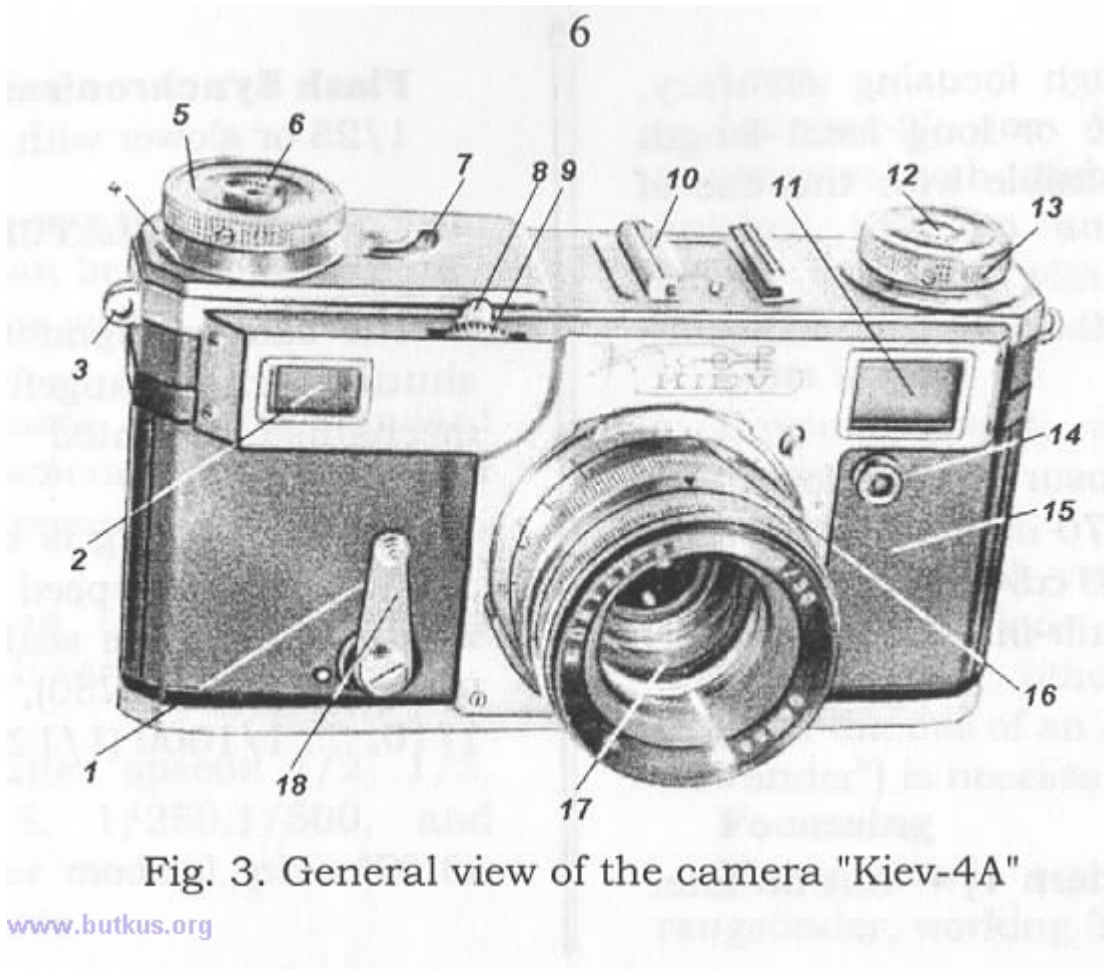
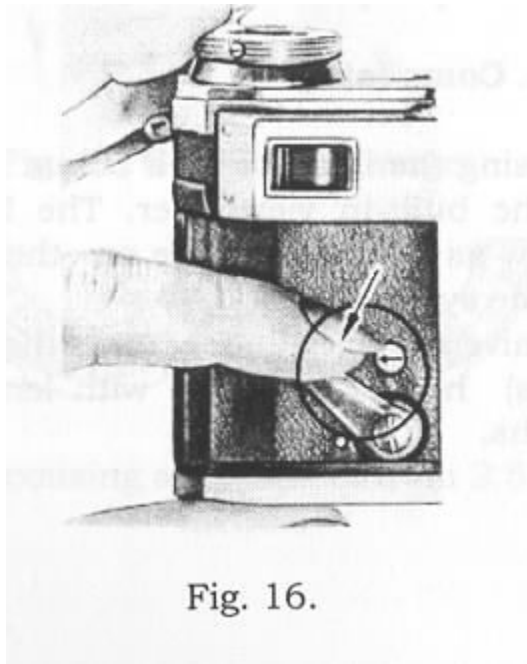

Fig. 3. General view of the camera "Kiev-4A"
Fig. 16.
The basic components of the camera (fig. 3) are: shutter, lens, rangefinder, viewfinder, self-timer mechanism mounted on the body, and removable back cover.
The self-timer mechanism is located inside the camera body. It is started by the lever 13. Also shown in fig 3 are: 3- camera strap eyelet; 14 -flash PC cord outlet.
Turn the advance knob 5 clockwise (fig. 3)
Adjusting the rangefinder image and focusing are made simultaneously by turning the movable part of the gear focus wheel (fig. 3)
The shutter is fired by pressing the shutter release button (6) (fig.3).
Turn the lever (18) (fig. 3) counter clockwise against the stop (fig. 16).